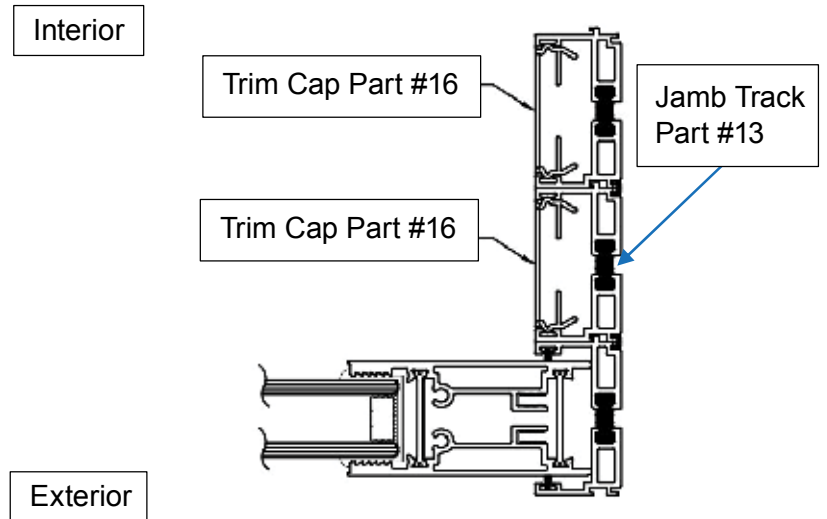

FIGURE 2
24. Install thresholds (Part #17) into the exterior and center sill tracks (Part #14a) shown in Figure 1 and the trim cap (Part # 16) of the same length into the exterior and center head tracks (Part #12) shown in Figure 2.